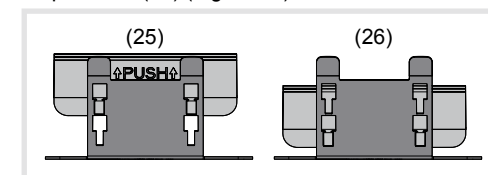

Figure 20: Moving the opening tool
**i** To open the letter box front 2/1, first move the opening tools from the upper (25) to the lower positions (26) (Figure 20).